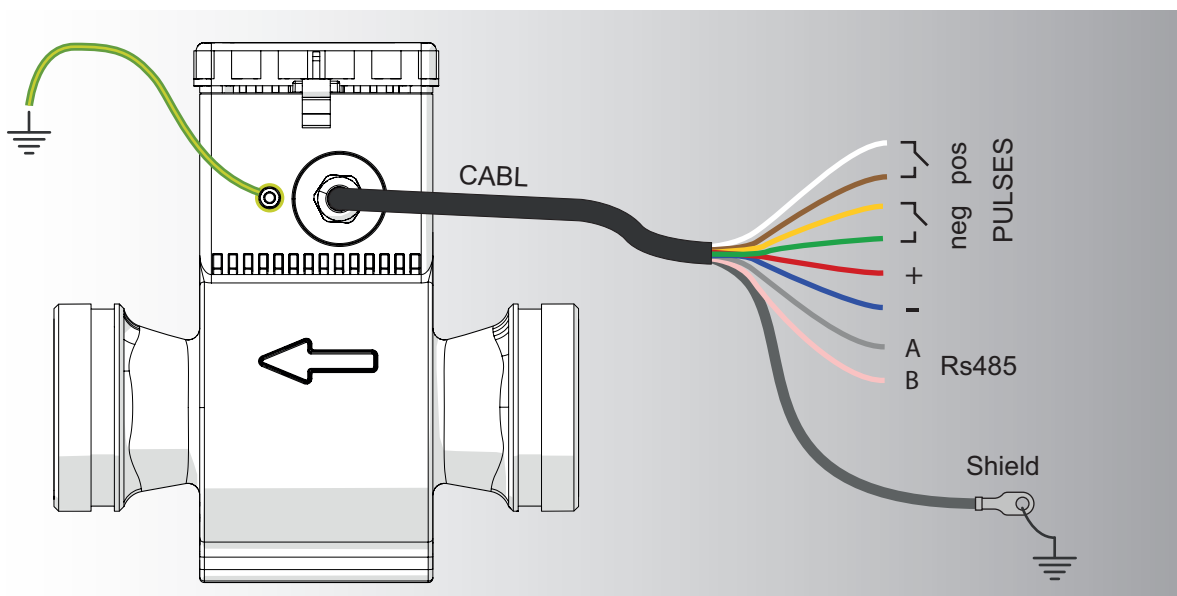

Fig. 38 Electrical Wiring
-  In order to properly connect electrical elements of the MUT7000 meter to the power supply and I/O connections please refer to the wiring diagram shown in paragraph 4.6.1 (Fig. 38).
i The manufacturer has identified all the power cables and signal cables that have to be connected by marking them with a colour in order to ease the identification of the correct connection terminals (Fig. 38).